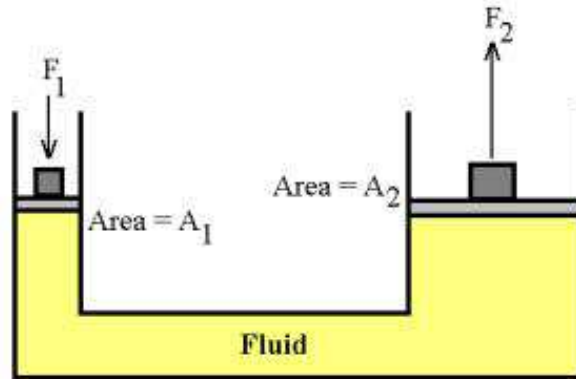

Fig. 3.— An arbitrary fluid element at rest feels forces perpendicular to its surface.
(4) Consider a fluid that completely fills a closed container, with two freely moving pistons (see Figure 3). If one piston is pressed, it forces a pressure on the fluid. If the fluid is at rest, this pressure is transmitted undiminished to every part of the fluid. This is known as **Pascal's Principle**, after Blaise Pascal.